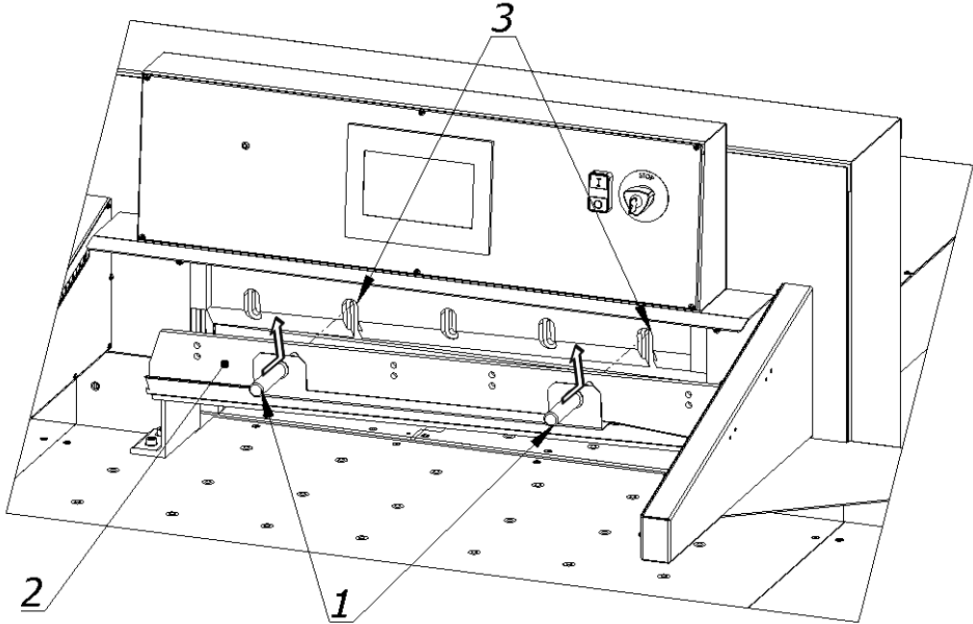

Figure 31
- 8.1.2.3. Holding the transport handles 1, insert the knife 2 into the cutter so that the transport handles screwed into the knife hit the cutouts in the cutter bar 3. (fig.31)